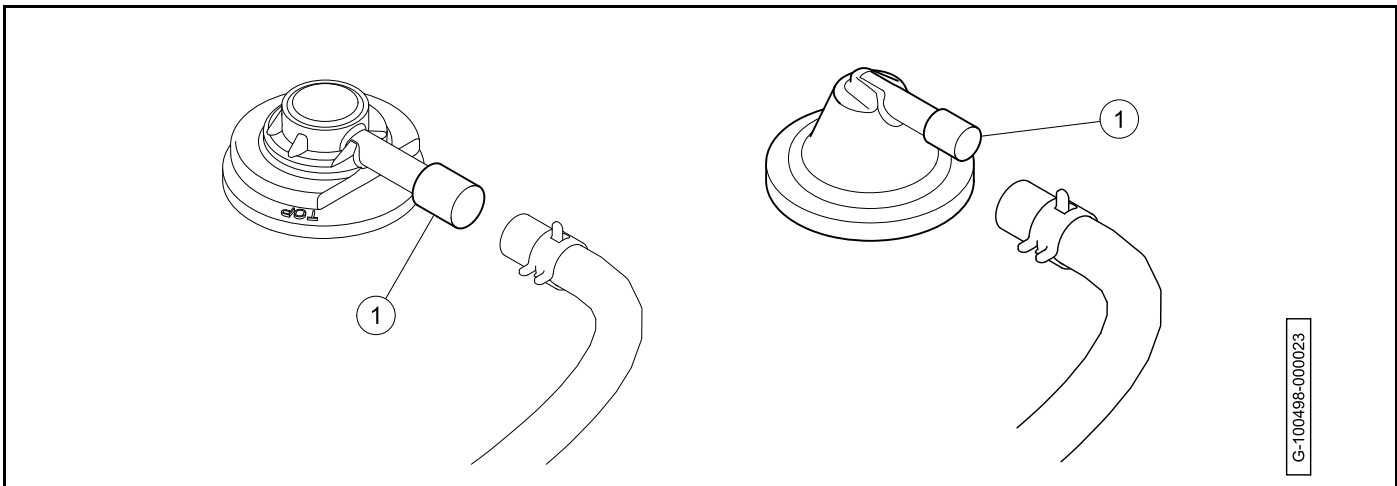

Figure 3-3 Left: Kohler / Right: Subaru
- 2.1. Remove and discard the slip-on vinyl cap (1) from the fuel tank vent nipple (Figure 3-3, Page 3-6).